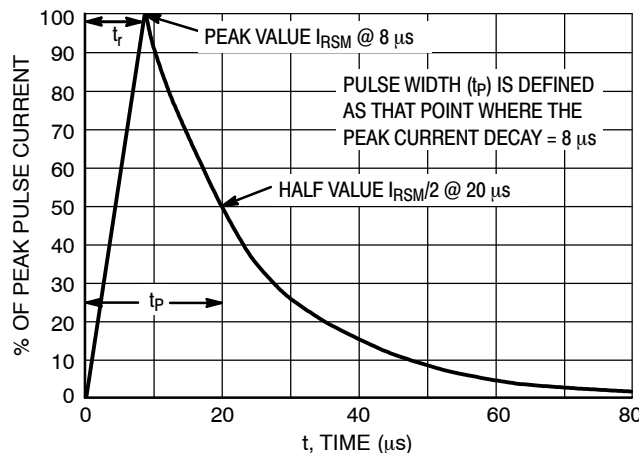

Figure 5. 8 X 20 μ s Pulse Waveform
1. Non-repetitive current per Figure 5.
4. Surge current waveform per Figure 5.